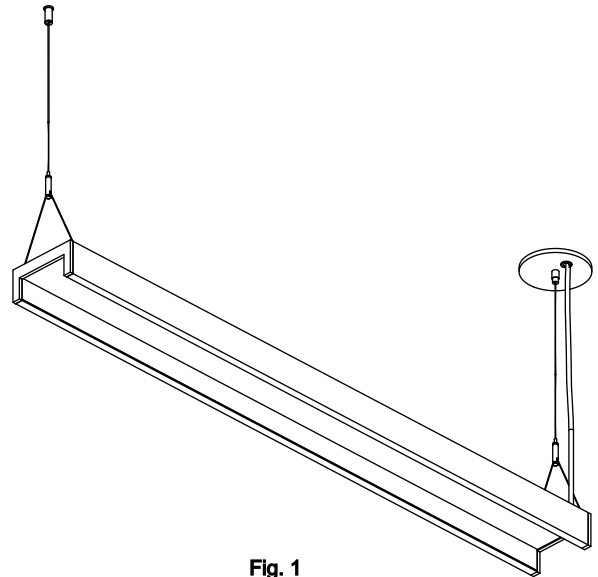

Fig. 1
2. Insert ceiling bracket through ceiling and secure with two dry wall screws (by others). Fig 1
3. Fasten 3x 8-32 screws making sure the screw heads have about 1/4" clearance from ceiling surface. Fig 1